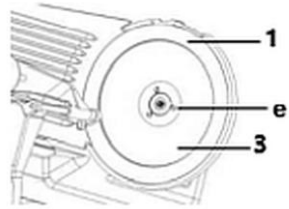

Fig. 13
4. To remove the blade (1) undo 3 locking screws (e) using a suitable screwdriver (Fig. 13).
5. Carefully detach the blade (1).
6. Clean the blade guard (3) and blade (1) in warm water and a neutral cleaning agent. Use a sponge, suitable cleaning brush or soft cloth. Rinse in fresh water.